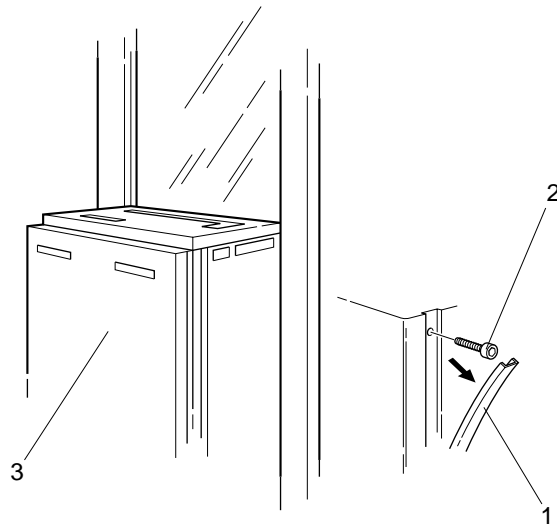

Fig. 1
1. Mains Voltage and system **OFF** ! Open the generator by removing the front cover as follows: Pry loose the plastic strips (1/fig. 1) on both sides, using a screwdriver or similar tool. Loosen the sixteen screws (2/fig. 1) now accessible (eight on either side) and remove the front cover (3/fig. 1).